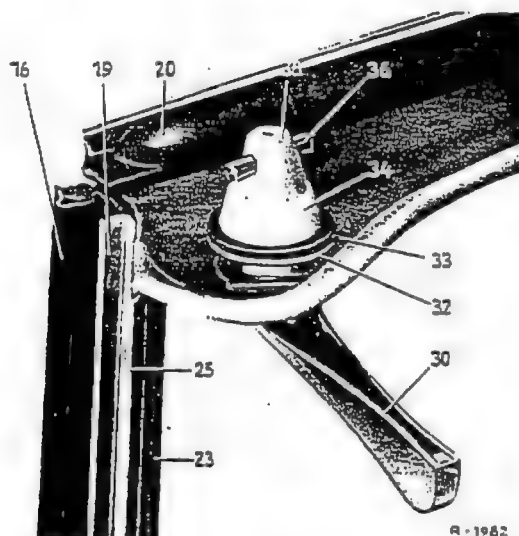

Fig. 79-10/1
2. Use a drift to knock out the pin (Fig. 79-10/1).